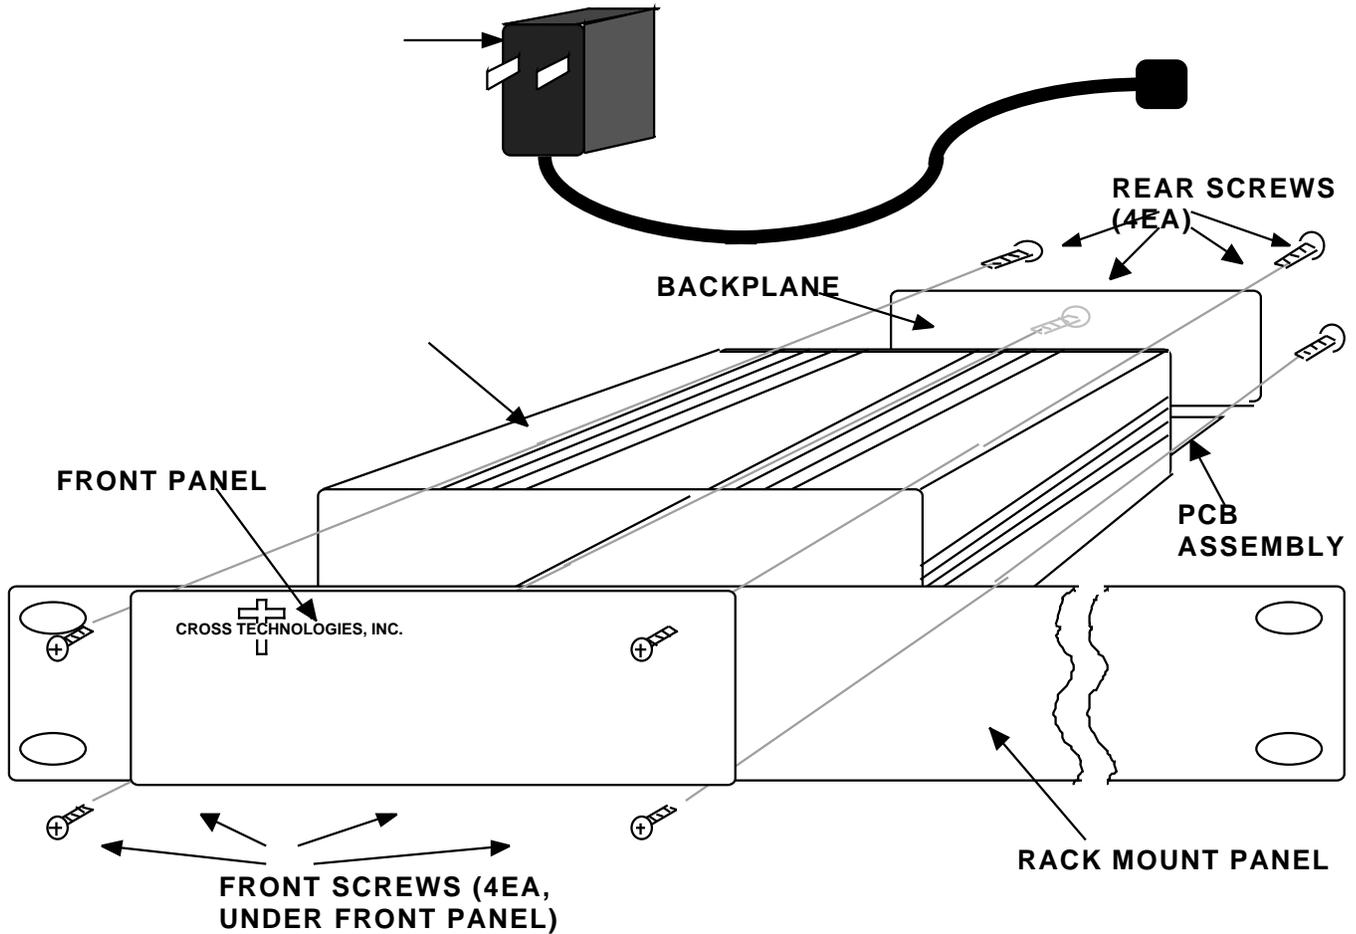

FIGURE 2.1 SERIES 2700 ASSEMBLY DRAWING
2.1 Mechanical - The 2710 Demodulator PCB is packaged in an aluminum extrusion. The 2710 is mounted on a 1 3/4" X 19" panel that can be mounted to a rack using the 4 holes at the ends. The unit derives $\pm 15V$ from the wall power supply. See Figure 2.1.
- 1.) Remove four (4) **rear panel screws** (see Figure 2.1).
- 5.) Install four (4) **rear panel screws**.
- 1.) Connect the wall power supply to the 2710 and the wall power supply to 115 VAC, 60 Hz (Figure 2.1)